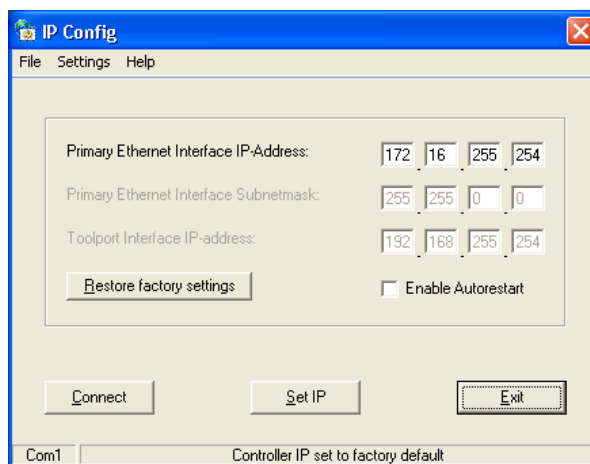

Figure 54. The IPConfig dialog box with factory default setting.
- Click the **Connect** button and press the **Init** push-button on the PLC until the **Run LED** starts to blink. Wait about a minute until a message appears, see Figure 54.